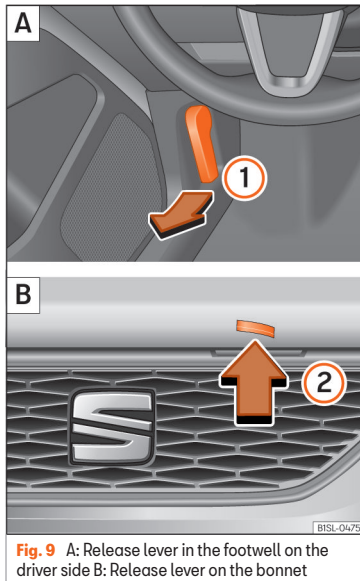

Fig. 9 A: Release lever in the footwell on the driver side B: Release lever on the bonnet
- Pull the release lever »» » Fig. 9 ❶ in the direction of the arrow. The bonnet is released from the lock carrier by a spring mechanism »» » ❶ in Working in the engine compartment on page 194.
- Lift the bonnet up slightly while pressing the release lever ❷ in the direction of the arrow to completely open the bonnet.
- Take out the bonnet support rod from its clip in the direction of the arrow ❸ and place it in the corresponding open position ❹ (arrow).